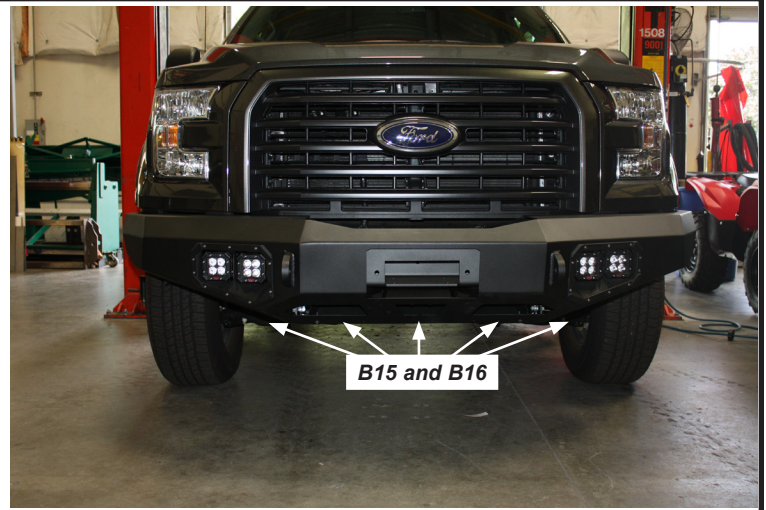

Figure 18
**NOTE:** You may wish to remove the two side impact bars at this time, because after bumper installment is complete, the impact bars will be exposed. See Figure 18.